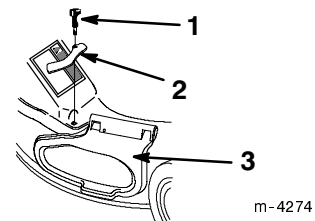

Figure 38
- Secure the front right corner of the discharge tunnel and the side opening cover with the side cover clamp removed previously and the long knob supplied with the grass catcher (Fig. 38).